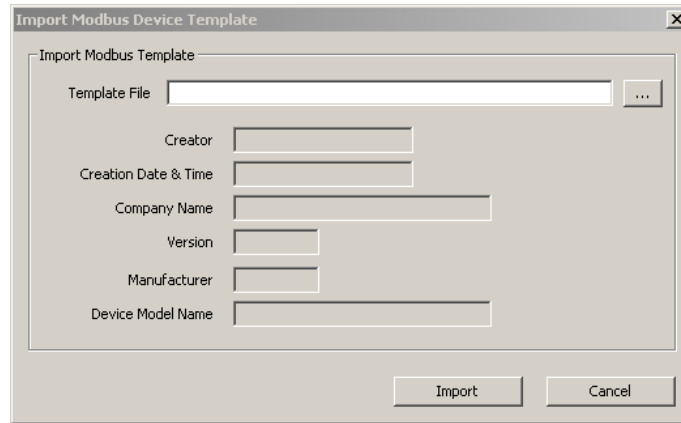

Figure 193 Import Device Template dialog.
2. This opens the **Import Modbus Device Template** dialog shown in Figure 193.